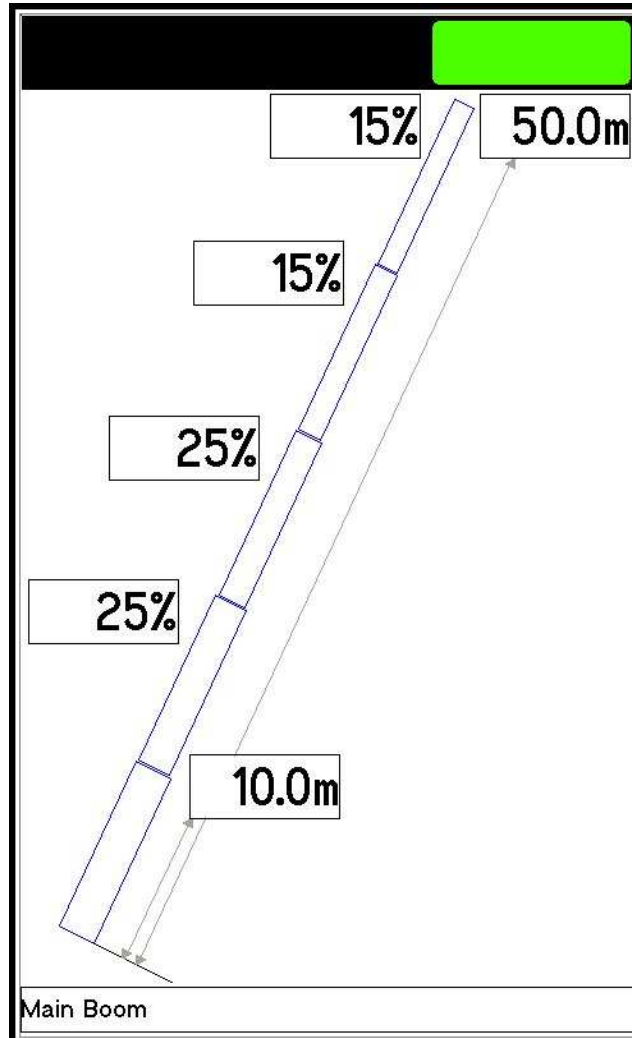

Figure 17
8. **Tele 4: 15 % Boom Telescope Percentages** – To view the current boom percentages and lengths press the working screen where the percentages are displayed. The boom telescope percentage screen will be displayed (Figure 17) with current lengths and percentages. To exit back to the normal working screen press anywhere on the screen.